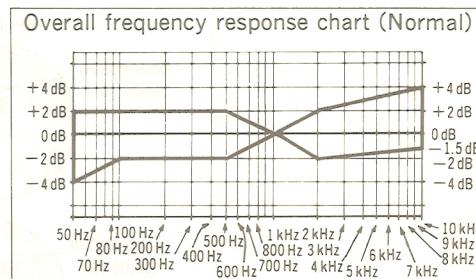

Fig. 12
G Overall frequency response	<p>Note: Before measuring and adjusting, make sure of the playback frequency response (For the method of measurement, please refer to the playback frequency response).</p> <p>Overall frequency response adjustment by recording bias current</p> <p>(Recording equalizer is fixed)</p> <ol style="list-style-type: none"> <li>Make connections as shown in fig. 13.</li> <li>Place UNIT into normal tape mode and load the test tape (QZZCRA).</li> <li>Input a 1kHz, -24 dB signal through LINE IN.</li> <li>Place the set in record mode.</li> <li>Fine adjust the attenuator to obtain 0.4V LINE OUT output. * Make sure that the input signal level is <math>-24 \pm 4 \text{ dB}</math> with 0.4V output voltage.</li> <li>Adjust the attenuator to reduce the input signal level by 20dB.</li> <li>Adjust the AF oscillator to generate 50Hz, 100Hz, 200Hz, 500Hz, 1kHz, 4kHz, 8kHz and 10kHz signals, and record these signals on the test tape.</li> <li>Playback the signals recorded in step 6, and check if the frequency response curve is within the limits shown in the overall frequency response chart for normal tapes (fig. 12). (If the curve is within the charted specifications, proceed to steps 8, 9, 10 and 11.) If the curve is not within the charted specifications, adjust as follows;</li> </ol>
<p>Frequency response</p> <p>Condition: * Record/playback mode * Normal tape mode * Input level controls ... MAX * Output level control ... MAX * Standard input level: MIC ..... <math>-72 \pm 3</math> dB LINE IN ... <math>-24 \pm 3</math> dB</p> <p>Equipment: * VTVM * AF oscillator * ATT * Oscilloscope * Resistor (600Ω) * Test tape (reference blank tape) ... QZZCRA for Normal</p>	<p>Adjustment ①: When the curve exceeds the overall frequency response chart specifications (fig. 12) as shown in fig. 14.</p>  <p>Fig. 14</p> <p>1) Increase bias current by turning VR9 (L-CH) and VR10 (R-CH). (See fig. 1 on page 5.) 2) Repeat steps 6 and 7 to confirm. (Proceed to steps 8, 9, 10 and 11 if the curve is now within the charted specifications in fig. 12.) 3) If the curve still exceeds the specifications (fig. 12), increase bias current further and repeat steps 6 and 7. 8. Place UNIT into CrO2 tape mode. 9. Change test tape to QZZCRX, and record 50Hz, 100Hz, 200Hz, 500Hz, 1kHz, 4kHz, 8kHz, 10kHz and 12.5kHz signals. Then, playback the signals and check if the curve is within the limits shown in the overall frequency response chart for CrO2 tapes (fig. 16). 10. Place UNIT into metal tape mode change test tape to QZZCRZ, and record 50Hz, 100Hz, 200Hz, 500Hz, 1kHz, 4kHz, 8kHz, 10kHz and 12.5kHz signals. Then, playback the signals and check if the curve is within the limits shown in the overall frequency response chart for metal tapes (fig. 16). 11. Confirm that bias currents are approximately as follows when the UNIT is set at different tape mode. * Read voltage on VTVM and calculate bias current by following formula: Bias current (A) = <math>\frac{\text{Value read on VTVM (V)}}{10 (\Omega)}</math></p> <p>Standard value: around 340 <math>\mu</math>A (Normal position) around 440 <math>\mu</math>A (CrO2 position) around 710 <math>\mu</math>A (Metal position)}: measured at TP1 (L-CH) and TP2 (R-CH)</p>